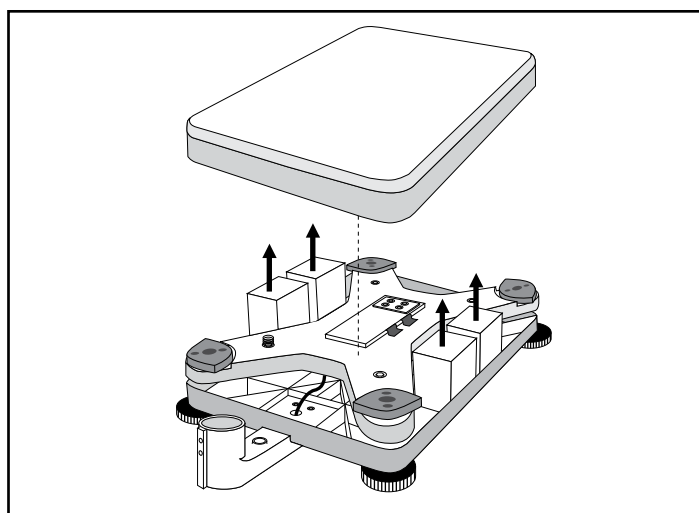

Figure 1
3. Remove the four styrofoam blocks from the Platform Base. (See Figure 1)